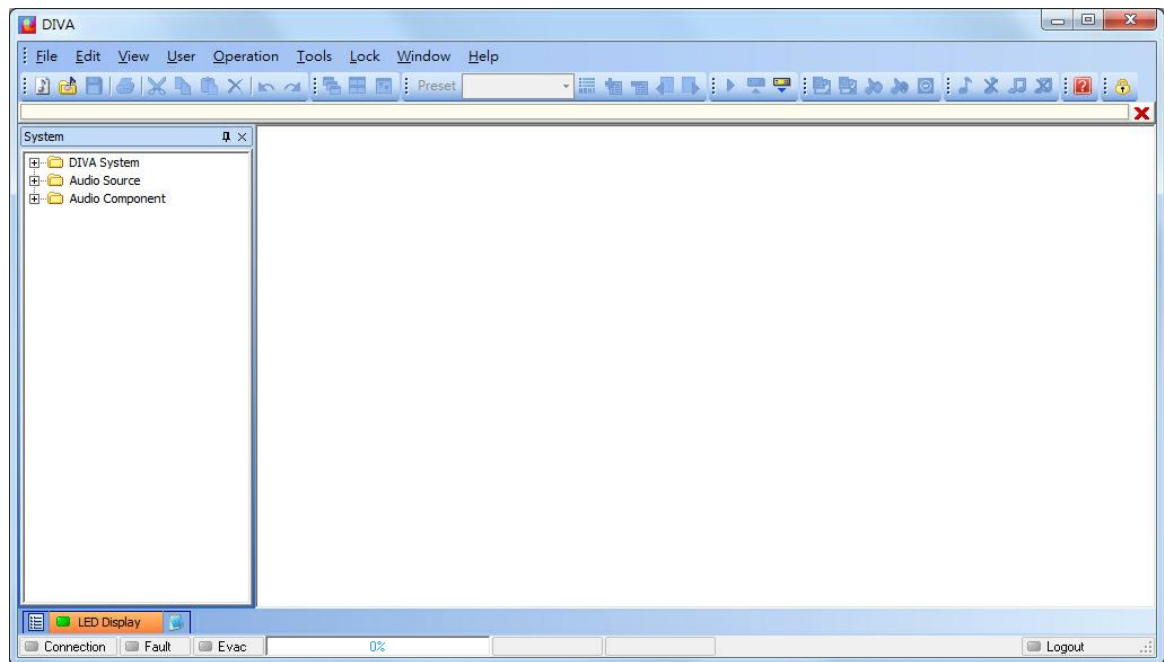
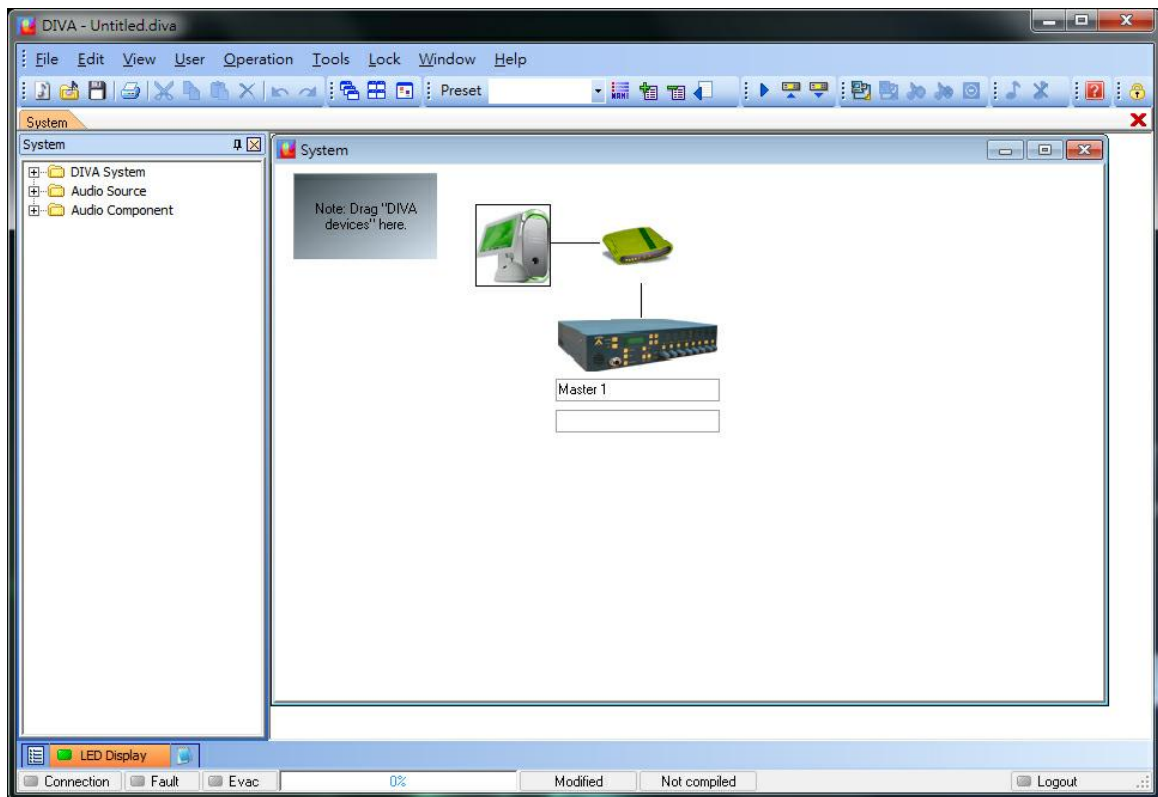
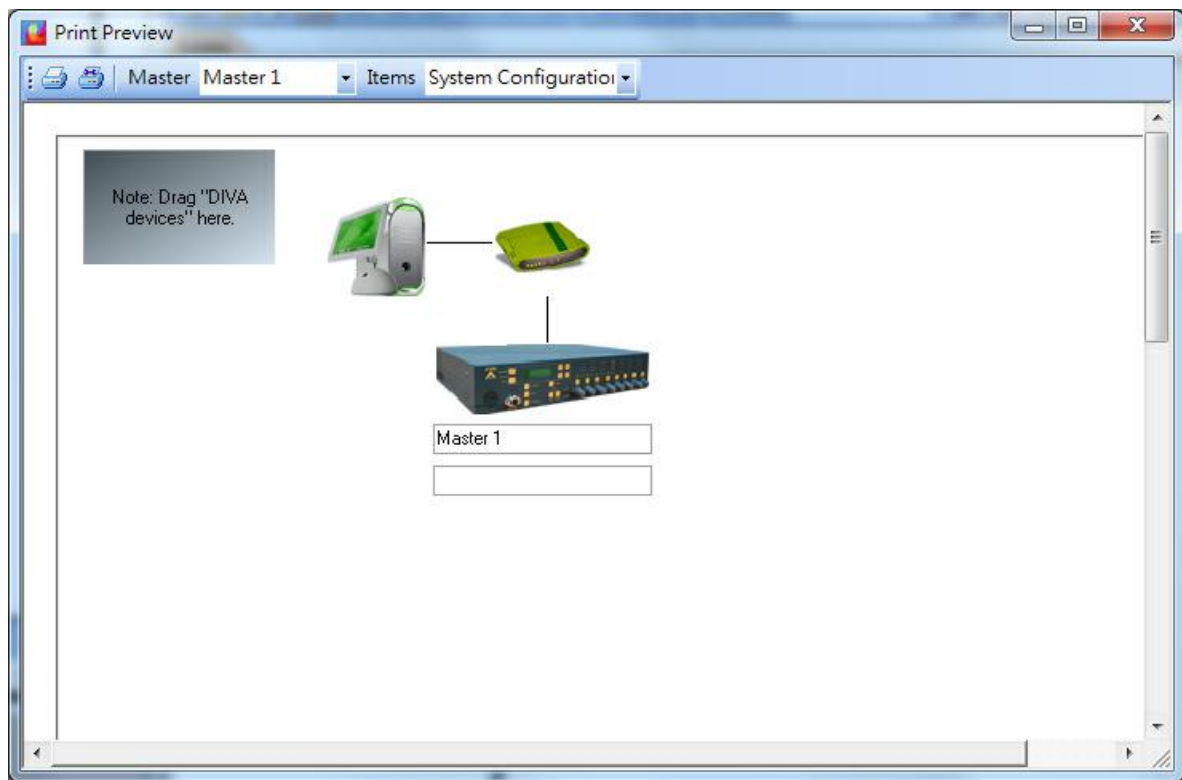

Figure 5: DIVA Software front page
Figure 7: New System
Figure 10: Master page
- The start page is represented on Figure 5. A first thing to do is to start a new project by clicking on or by going through the menu file. This will launch a new window named "System" displayed on Figure 7.
Now the DIVA connections are configured. The following step is how to set the system for using audio external sources, like tuner, cd player, computer, etc., and assigned them to zone. In the main system page (Figure 7), double click the DIVA icon after having rename DIVA apparel according to your wishes, here DIVA1 (default is "master1"). A "DIVA1" pop window is displayed (Figure 10).